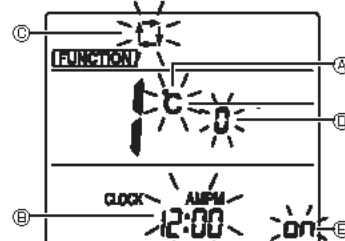

Fig. 7-10
3. Check that function No. "1" is displayed, and then press the **FUNCTION** button ②. The display setting screen will be displayed. (Fig. 7-10)